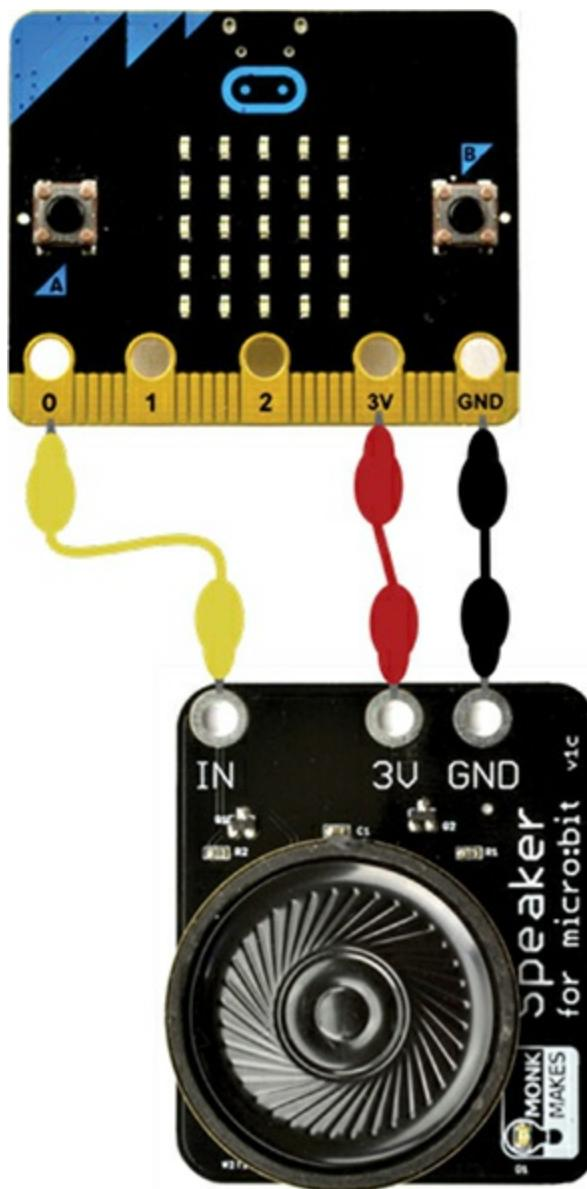
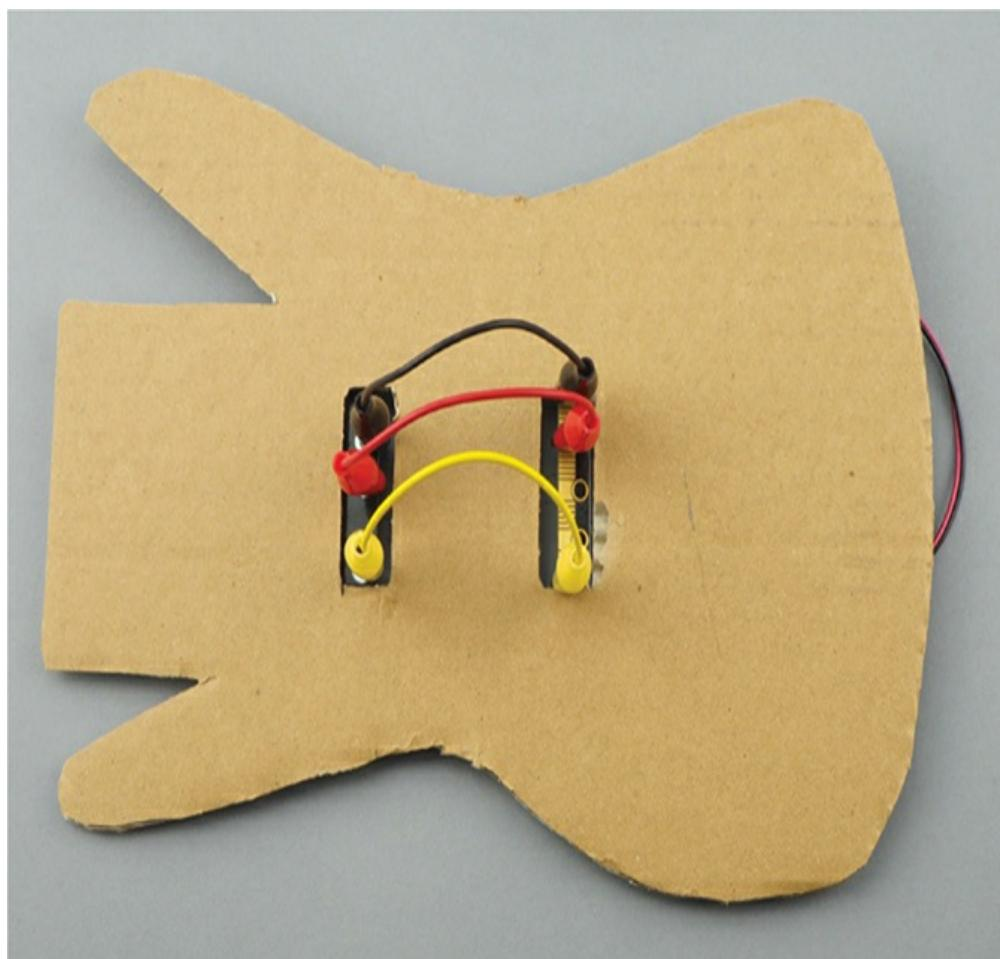

Figure 3-2: Attaching the micro:bit to a speaker
Figure 3-7: Connecting the micro:bit to the speaker
1. Connect the speaker to the micro:bit using the three alligator cables, as shown in Figure 3-2.
8. Flip the whole thing over and connect the micro:bit and speaker, as shown in Figure 3-7. Reference Figure 3-2 if you need help with the connections.